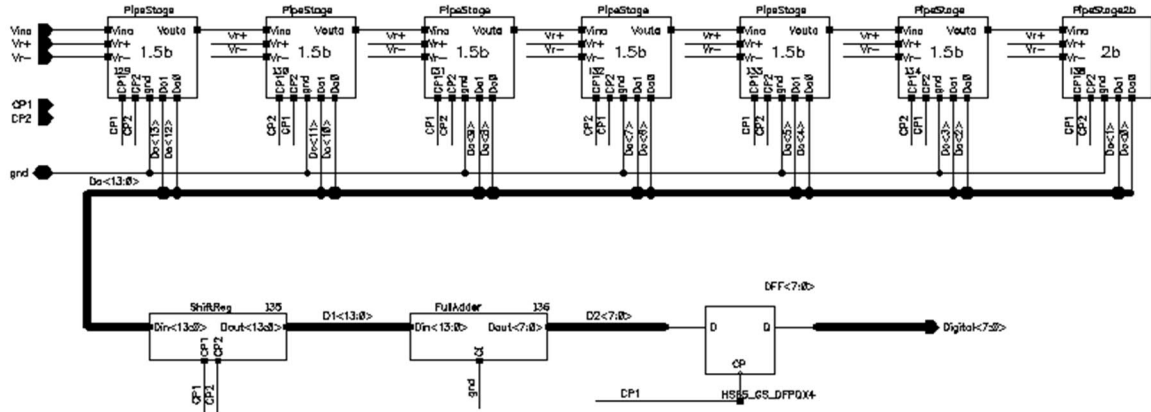

Figure 10. The pipeline ADC model.
- e. When you have connected all blocks and pins together, the **schematic** view of **PipeADC** should look something like Figure 10. Save and close it.